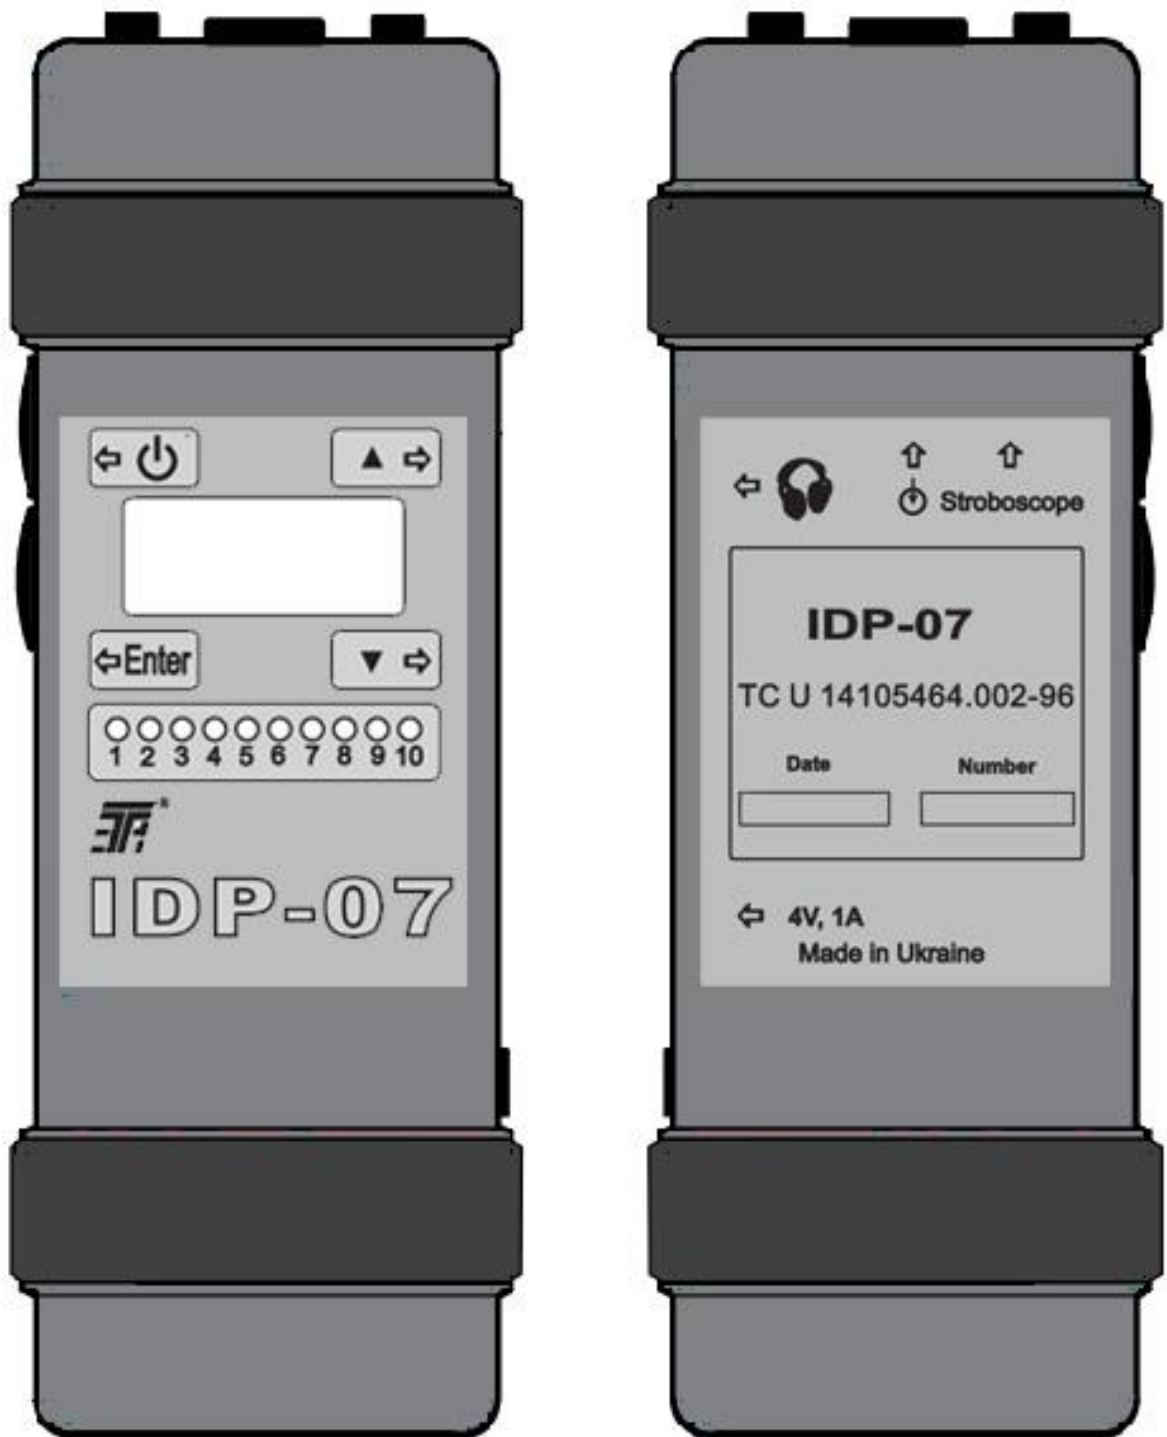

Fig. 4.1
4.1 Indicator design (Fig. 4.1, 4.2).
7.1.1 Connect the vibration sensor to the indicator (see Fig. 4.1, 4.2).